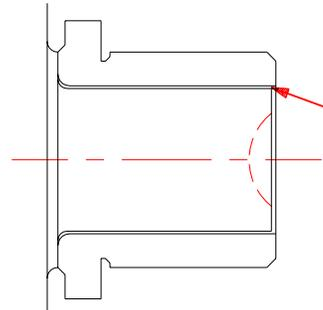

Fig. 30
- c) Refit the bearing on to the crankshaft and measure the clearance, Table 12 (Fig. 30).